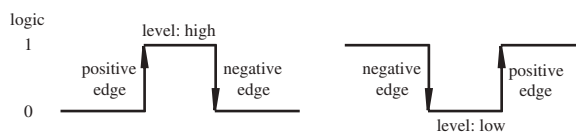

Figure 6.5 Clock pulse edges.
Combinational logic devices generate an output based on the input values, independent of the input timing. With **sequential logic** devices, however, the timing or sequencing of the input signals is important. Devices in this class include flip-flops, counters, monostables, latches, and more complex devices such as microprocessors. Sequential logic devices usually respond to inputs when a separate trigger signal transitions from one level to another. The trigger signal is usually referred to as the **clock** (CK) signal. The clock signal can be a periodic square wave or an aperiodic collection of pulses. Figure 6.5 illustrates edge terminology in relation to a clock pulse, where an arrow is used to indicate edges where state transitions occur. **Positive-edge-triggered** devices respond to a low-to-high (0 to 1) transition, and **negative-edge-triggered** devices respond to a high-to-low (1 to 0) transition. This topic is addressed again in Section 6.9.1 where it is applied to flip-flops.